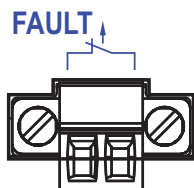

Figure 15: 2-pin terminal block
- ▶ The signal contact (“FAULT“, pin assignment of terminal block see figure 15) is used to monitor the device function, and thus supports remote diagnostics. You can specify the type of function monitoring in the management.